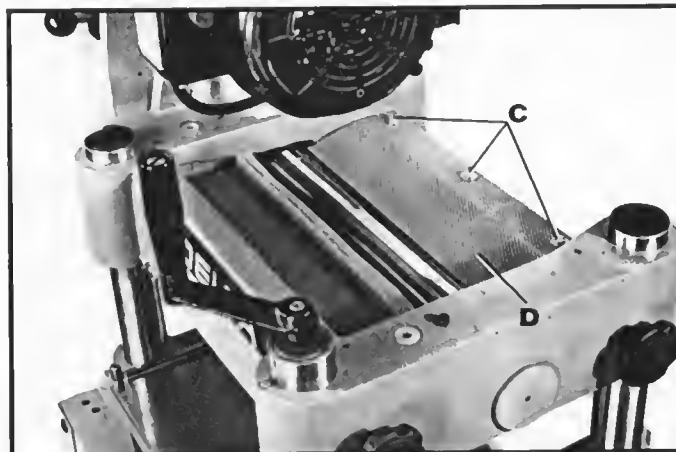

Fig. 27
3. Remove the three screws (C) Fig. 27, and remove the chip deflector (D).